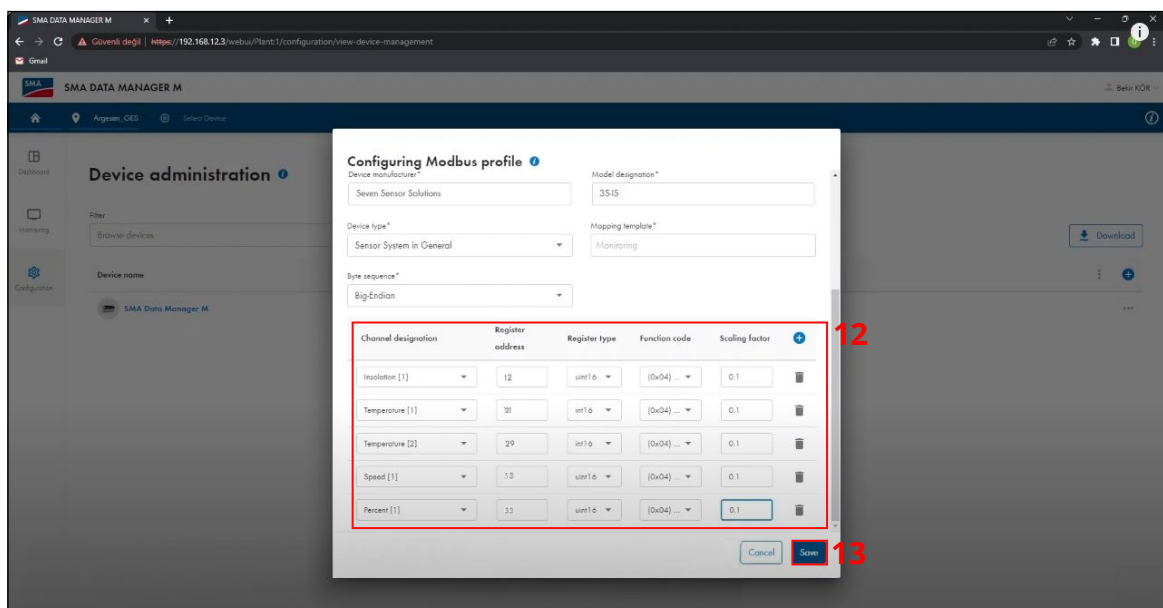

Figure 10: Configuration Settings of SEVEN Sensor Box
Step 12 : Define the information about the sensors as shown in Figure 10* for the configuration of the sensors that you have.